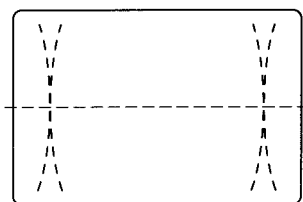

fig 2.5B
4. Adjust the parabola tilt control **PT5** so that the upper and lower distortions of the left and right vertical lines are symmetrical (fig 2.5B).